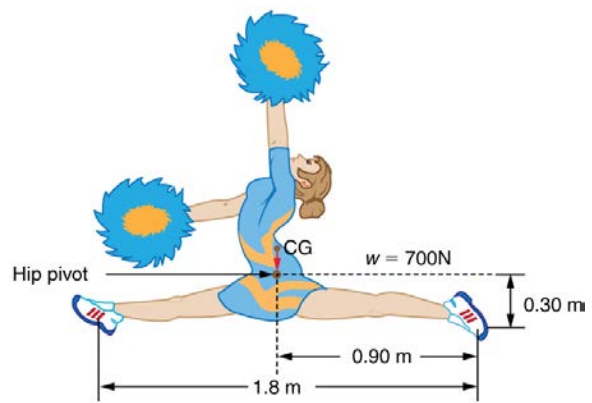

Figure 9.36 A gymnast performs full split. The center of gravity and the various distances from it are shown.
16. A gymnast is attempting to perform splits. From the information given in **Figure 9.36**, calculate the magnitude and direction of the force exerted on each foot by the floor.